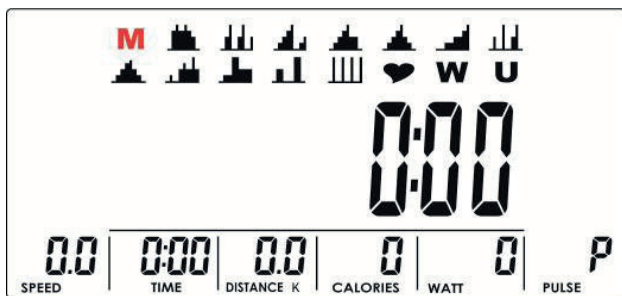

Figure 3
*Once you have entered your user details, the main menu will be displayed (Fig. 3).*